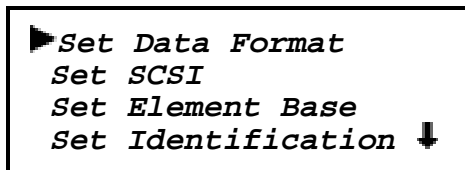

Figure 2-25 Configure Submenu
- Press the **▼** button three times to move the **▶** to Configure Menu, then press the **Enter** button. The display will show the Configure submenu, as shown in Figure 2-25. Note that the **↓** at the end of the fourth line means that there are additional configuration options that can be reached by scrolling with the **▼** button.
7. Press the **Escape** button repeatedly until the submenu in Figure 2-25 reappears.